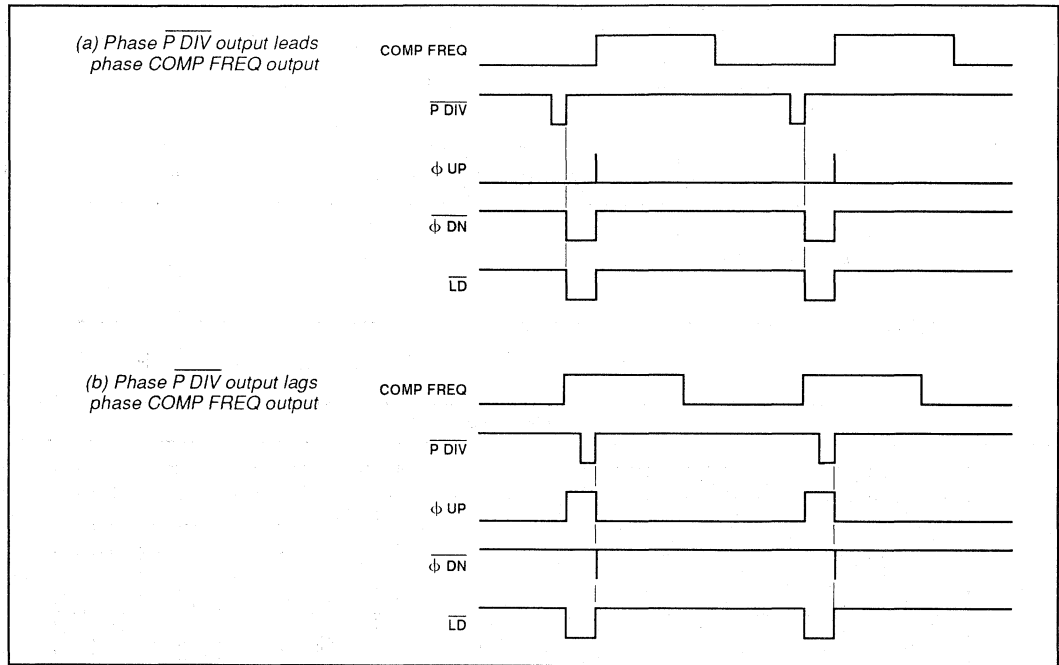
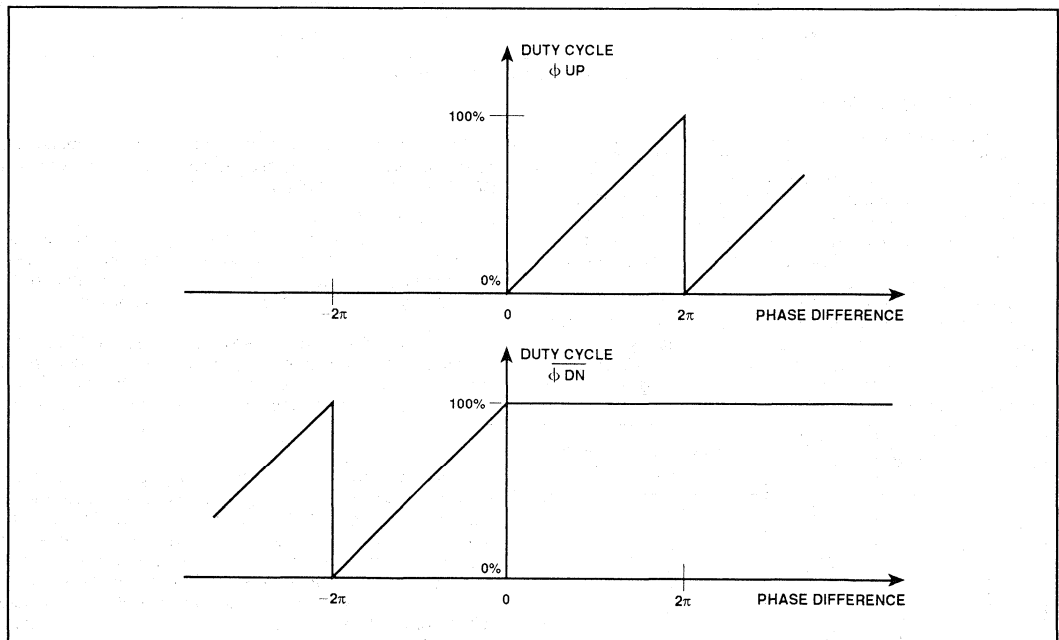

Fig. 6 Phase comparator waveforms
Fig. 7 Phase comparator output characteristics
The phase comparator consists of a digital type phase comparator with open drain  $\phi$  UP and  $\phi$  DN outputs and an open drain LOCK DETECT (LD) output. Open drain outputs from the reference divider and programmable divider are provided for monitoring purposes or for use with an external phase comparator. Waveforms for all these outputs are shown in Fig.6. The duty cycle of  $\phi$  UP and  $\phi$  DN versus phase difference are shown in Fig. 7. The phase comparator is linear over a  $\pm 2$  range and if the phase gains or slips by more than 2, the phase comparator outputs repeat with a 2 period.
Once the phase difference exceeds 2, the comparator will gain or slip one cycle and then try to lock on to the new zero phase difference. Note that very narrow pulses may be seen on the inactive phase comparator output at the end of the pulse on the active output, as shown in Fig. 6.